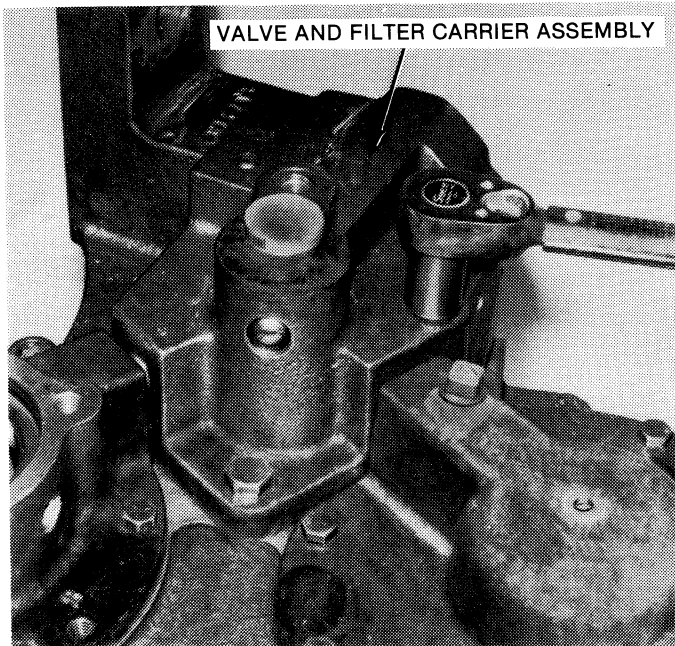

Figure 6-11. Removing or Installing screws on Valve and Filter Assembly.
1. Remove five hex-head screws from the valve and filter carrier assembly. See Figure 6-11.
2. Remove the valve and filter carrier assembly. See Figure 6-11.